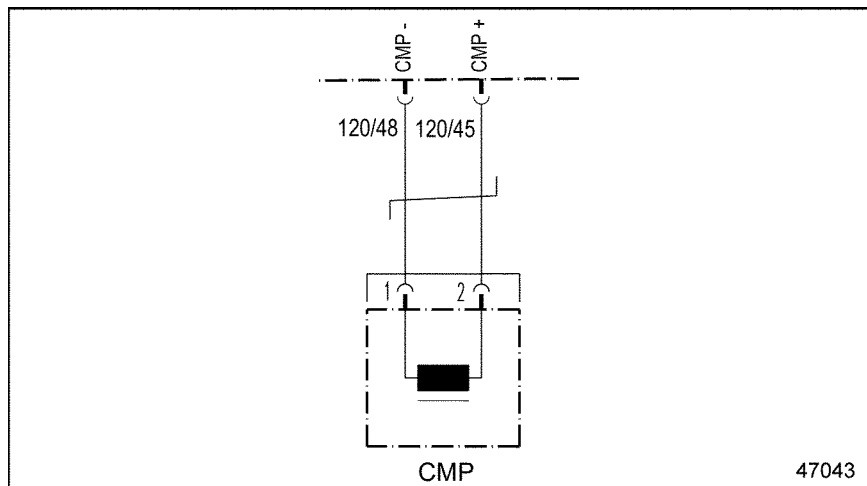

Figure 1 Camshaft Position Sensor
2. Measure the resistance across pins 1 and 2 of the CMP Sensor. See Figure 1.